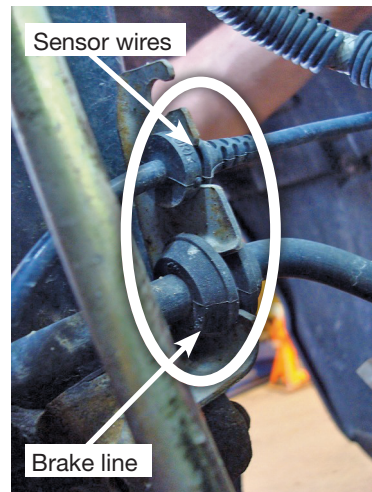

fig. 3
1. Detach the brake line and sensor wires from the supporting bracket (Fig. 3).